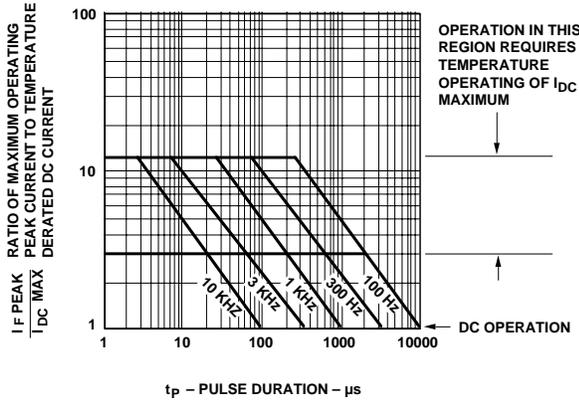

Figure 8. Allowable Peak Current vs. Pulse Duration - Green.
7. See Figure 8 to establish pulsed conditions.